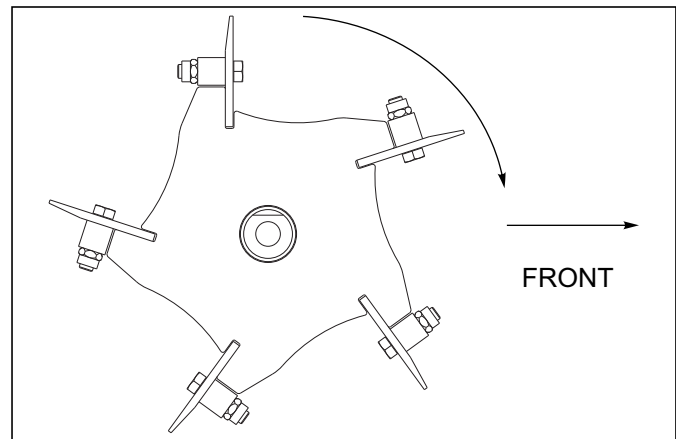

Figure 4-28: Chopper Reel Direction
3. Chopper reels should be installed as shown See Figure 4-28. for correct chopping operation (**Note the direction of travel**). If the reels are installed backwards, the blade will contact the ground at a much flatter angle, and not chop or mix the soil as well.